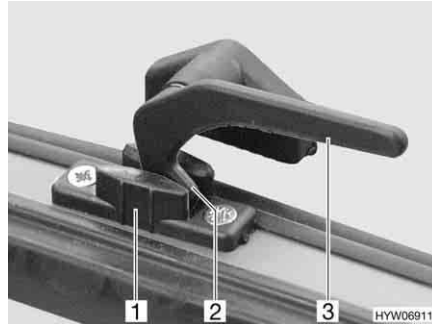

Fig. 9 Catch lever in the "continuous ventilation" position
- "continuous ventilation" (Fig. 9)
- Turn the catch lever (Fig. 9,3) a quarter turn towards the centre of the window.
- Return the catch lever to its initial position. The locking catch (Fig. 9,2) has to be moved into the recess of window catch (Fig. 9,1).